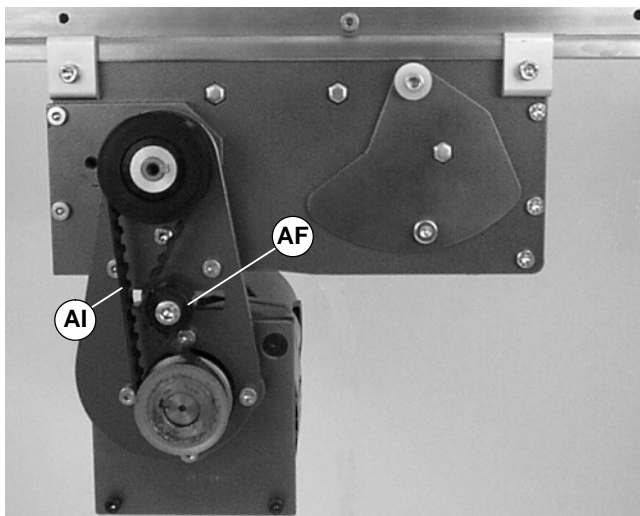

Figure 22
4. Loosen tensioner (AF of Figure 22).
5. Remove timing belt (AI of Figure 22).